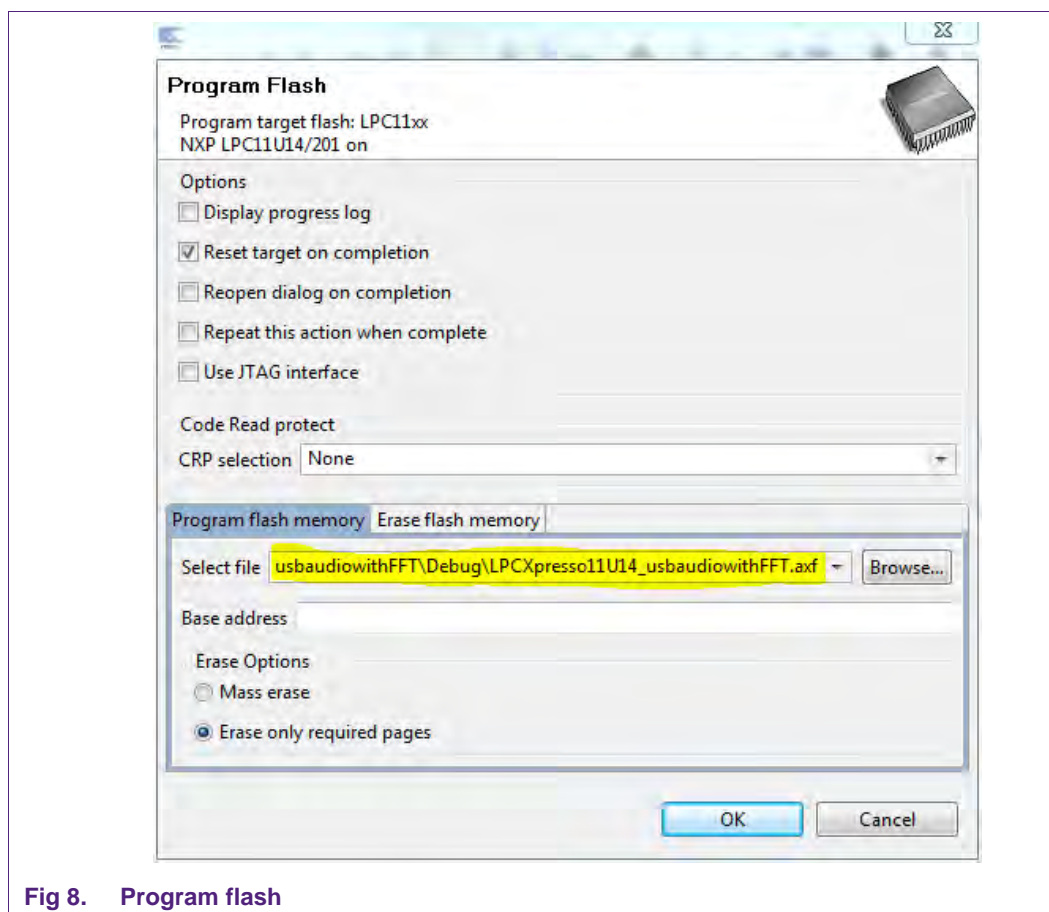

Fig 8. Program flash
- d. Select file: LPCXpresso1114_usbaudiowithFFT_usbdc\Debug\LPCXpresso1114_usbaudiowithFFT_usbdc.axf (as shown in Fig 8)